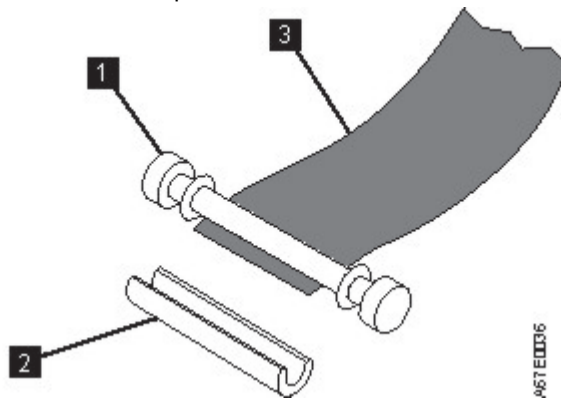

Figure 99. Removing the C-clip from the leader pin
5. On the leader pin (1 in Figure 99 on page 170), locate the open side of the C-clip (2). The C-clip is a small black part that secures the tape (3) to the pin.